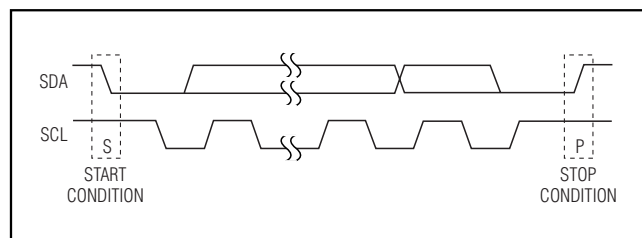

Figure 9. Start and Stop Conditions
Each transmission consists of a START condition (see Figure 9) sent by a master, followed by the MAX7306/MAX7307 7-bit slave address plus R/W bit, a register address byte, one or more data bytes, and finally a STOP condition (see Figure 9).
Both SCL and SDA remain high when the interface is not busy. A master signals the beginning of a transmission with a START (S) condition by transitioning SDA from high to low while SCL is high. When the master has finished communicating with the slave, it issues a STOP (P) condition by transitioning SDA from low to high while SCL is high. The bus is then free for another transmission (see Figure 9).